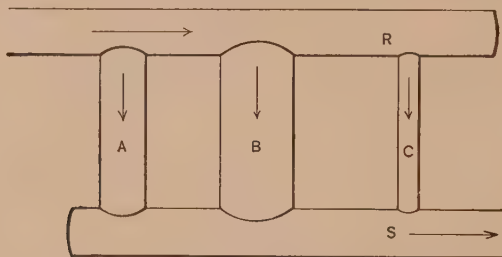

FIG. 40. The pipes *A*, *B* and *C* are in parallel.
**19. Parallel Circuit. Voltage.** Suppose, as in Fig. 40, we should join two main pipes  $R$  and  $S$  by means of three parallel pipes  $A$ ,  $B$  and  $C$ . All the parallel pipes lie between the same two levels, that is, the levels of  $R$  and  $S$ . Thus there is the same difference of level across them. We have seen that it is this difference of level that causes the
**20. Parallel Circuit. Current.** Turning again to Fig. 40, it is seen that, since the pipes *A*, *B* and *C* are not joined in series, they are independent of one another, and do not have to carry the same current. In fact, it is very evident that the largest pipe will carry the largest current and the smallest pipe the smallest current. Water and electricity do not take the path of least resistance. They take all paths. Where the path is of small resistance, a heavy current flows. Where there is a path of large resistance, a small current flows. But the water or the electricity is sure to make use of **both** the low resistance and the high resistance paths and force as much current as possible through both. The total current that flows through is merely the sum of the currents in the separate paths.
Or, referring to Fig. 40, it can be seen that the more pipes there are connected in parallel between the main pipes *R* and *S*, the easier it is for the water to get from one main pipe to the other. Hence the smaller the resistance between the main pipes.